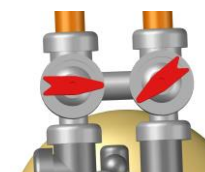

Figure 15: Opening bypass valve's inlet
- d. Once the tank is filled, only water will be coming out of the drain line. Put the system back into bypass operation. Run each step of the regen cycle (Figure 15) for a few minutes.